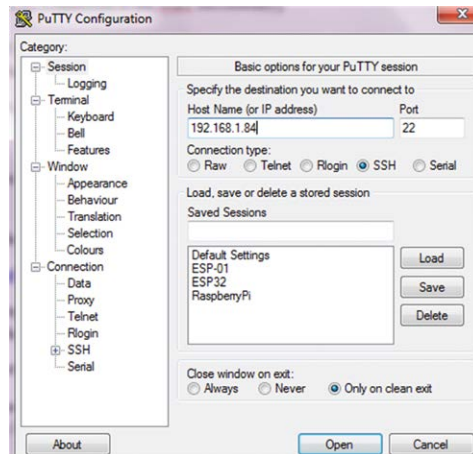

Figure 2.9 Enter the IP address
- Make sure that the Connection type is SSH and enter the IP address of your Raspberry Pi 3. Click Open as shown in Figure 2.9.